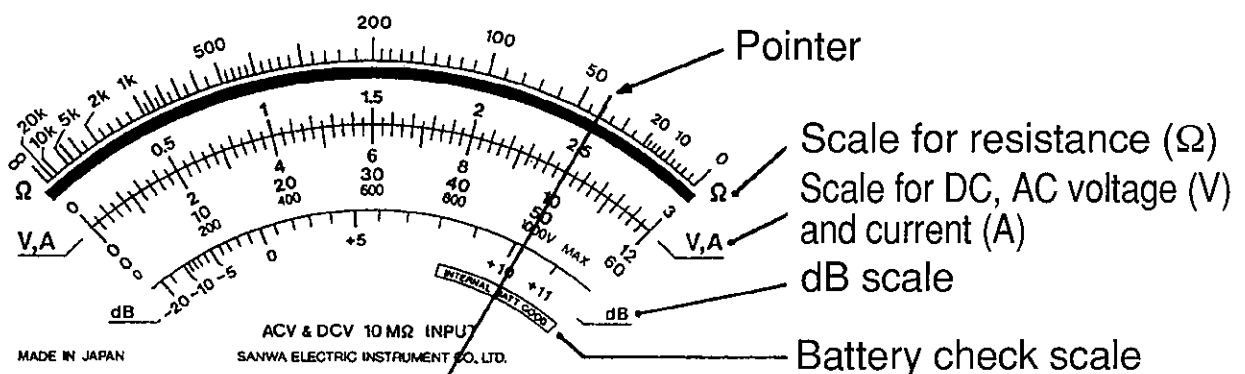

Fig. 3 Scale Plate
3. Pointer of indicator: As in Fig. 3